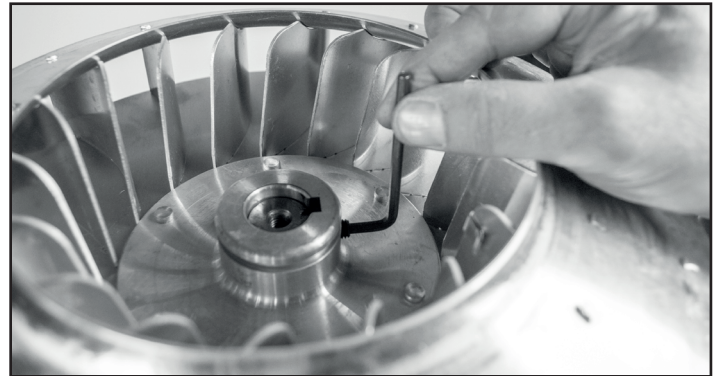

FIG. 10
2. Tighten the M8x12 Hex Head Screw, with the 3mm Hex Wrench, locking the Impeller to the motor shaft key. Fig. 10.